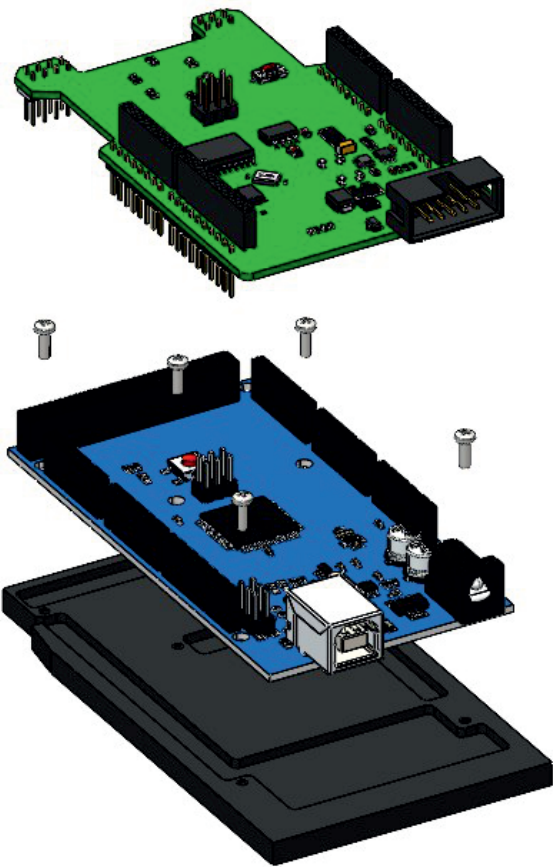

Fig. 36 Mounting the payload board and the ArdShield board
3) Attach the Arduino MEGA2560 payload board to the bracket with six M2x6 screws. Mount the ArdShield card on top of it. Use connectors to secure the parts (Fig. 36):